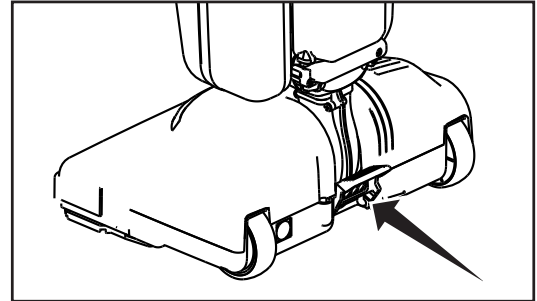

Fig. 4
- Press the Handle Release Pedal located on the back of the vacuum with your foot to recline the handle (Fig. 4).